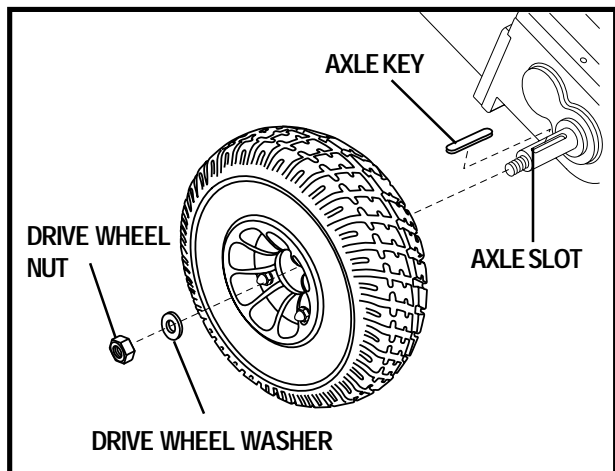

Figure 32. Drive Wheel
4. Remove the drive wheel nut and washer from the axle. See figure 32.